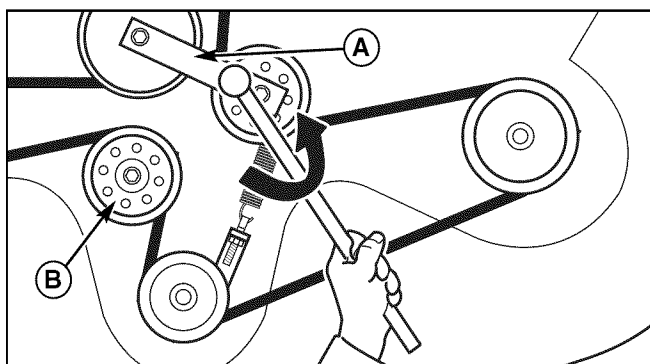

Figure 14. Release Belt Tension
4. Using a 1/2" breaker bar, place the square end in the square hole located in the idler arm (A, Figure 14). Carefully rotate the breaker bar COUNTER-CLOCKWISE, which will relieve the tension on the belt exerted from the idler arm. Slide the belt off of the stationary idler pulley (B).
9. Install the belt on the PTO pulley, the spindle pulleys and all the idler pulleys except the stationary idler pulley (B, Figure 14). Carefully rotate the breaker bar COUNTER-CLOCKWISE and install the belt on the stationary idler pulley. Carefully release the tension on the breaker bar.